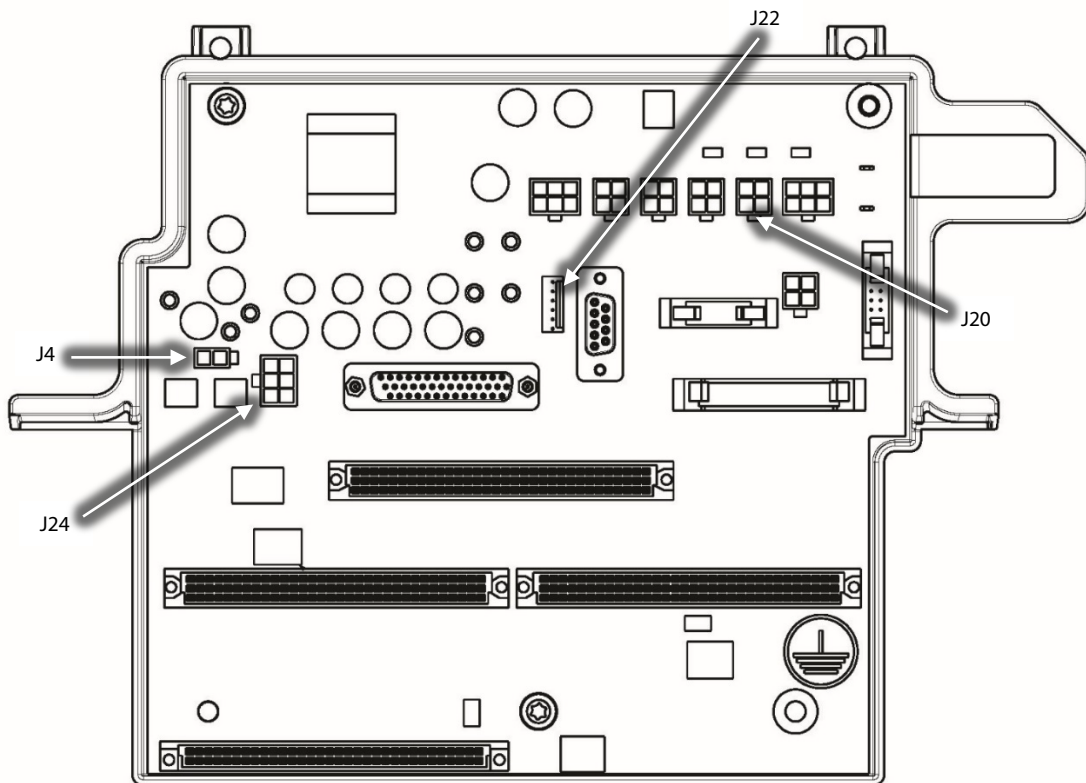

Figure 6 – Backplane Connector Locations
9. Disconnect J4, J20, and J24 from the Backplane. If using kit 100323-2, disconnect J22. Refer to Figure 6 (Backplane Connector Locations).